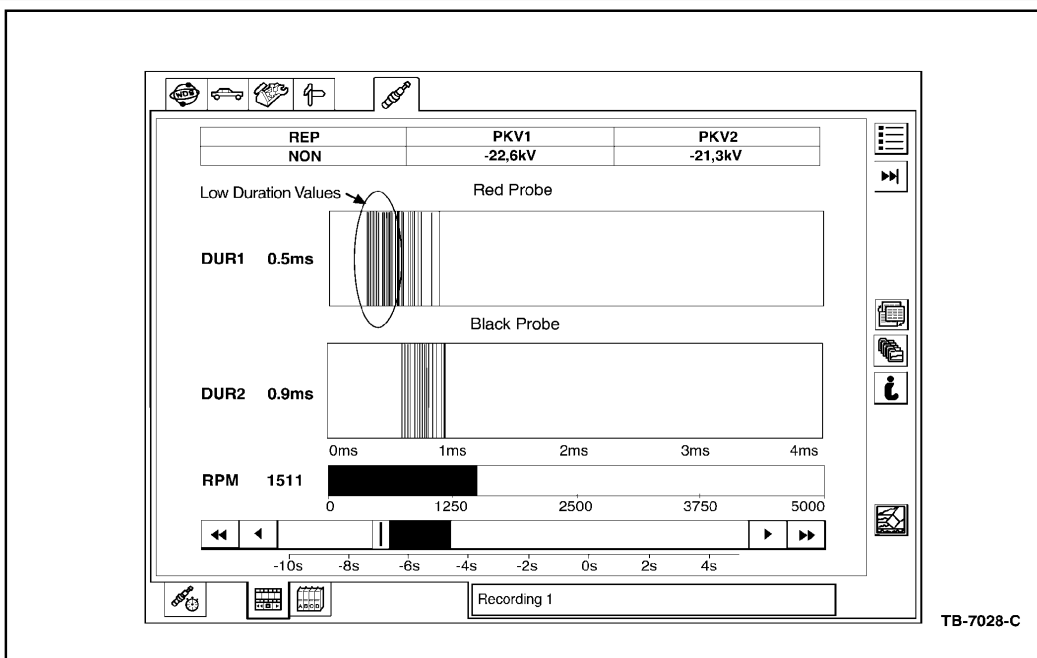
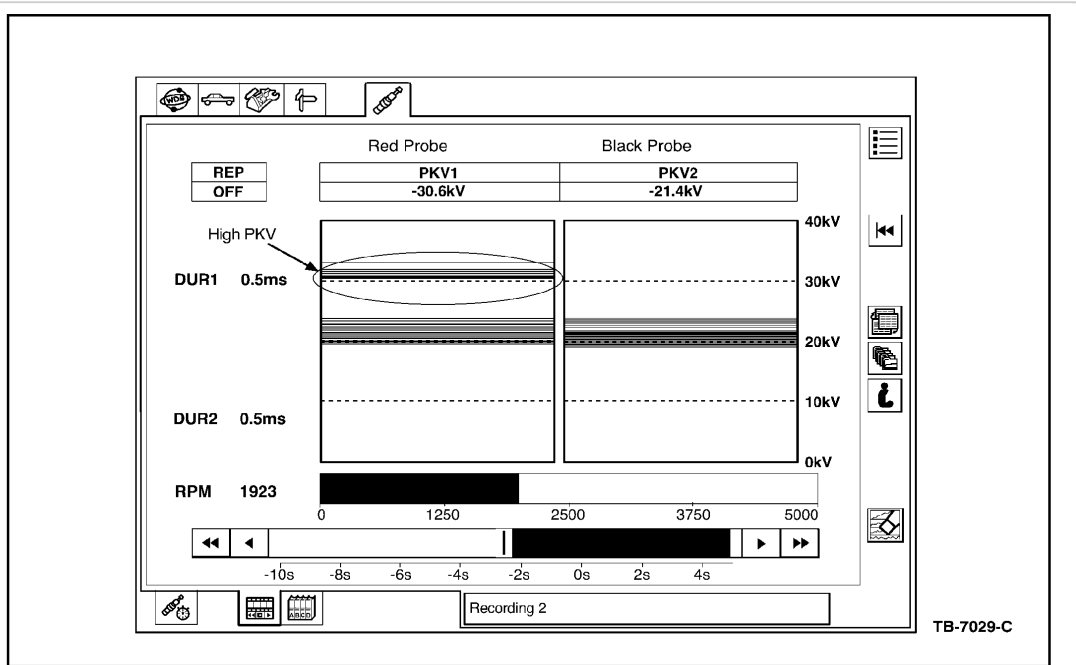

Figure 5
Figure 6
Run Ignition System Test on WDS to determine if there is an ignition problem. Look at both duration (DUR) and kilovolts (KV) and look for values that stand out from the rest as shown in Figure 5 and Figure 6.